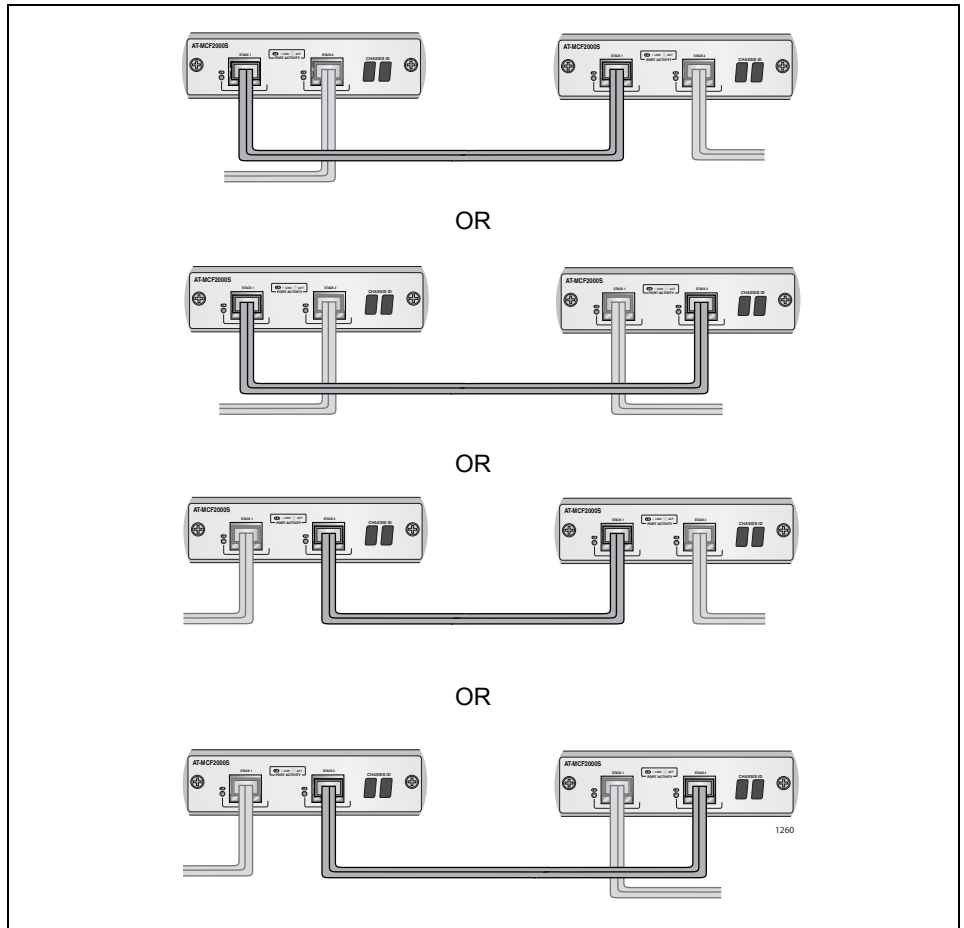

Figure 77. Cabling Two AT-MCF2000S Stacking Modules
3. To connect two AT-MCF2000S Stacking Modules, use a standard straight-through or crossover TIA/EIA 568-B-compliant Enhanced Category 5 (Cat 5e) shielded or unshielded cabling with 100 ohm impedance. Connect one of the Stack ports on one module to either of the Stack ports on the module in the next chassis. All port combinations are supported, as illustrated in Figure 77. For background information, refer to Chapter 5, “AT-MCF2000S Stacking Module” on page 73.